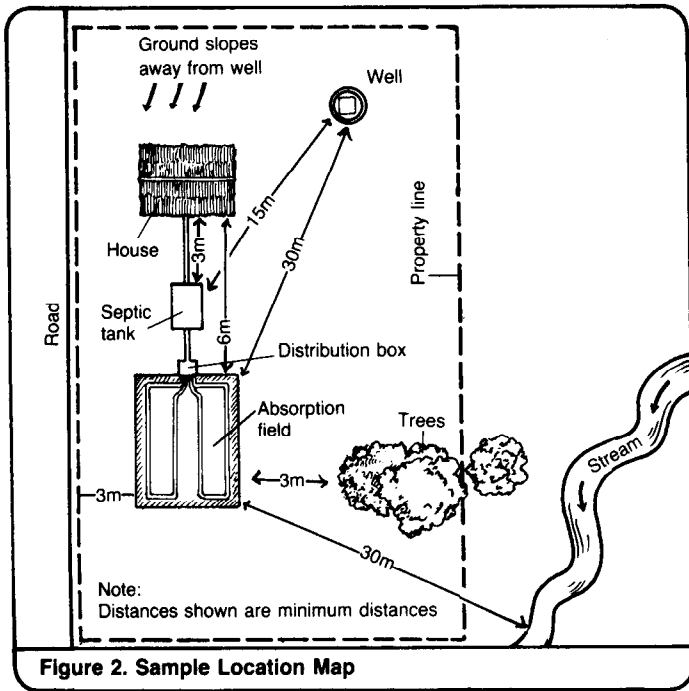

Figure 2. Sample Location Map
1. A location map similar to Figure 2.